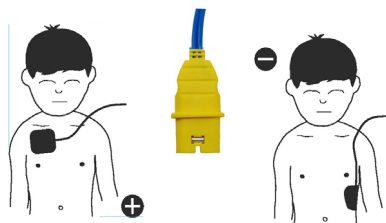

Fig. 5.4 Electrode position for children under 25 kg
1. Clean and dry the application points for the electrodes (refer to Fig. 5.4 Electrode position for children under 25 kg). Only clean the skin by vigorously rubbing it with a dry cloth.
2. Apply one electrode above the right nipple as illustrated in Fig. 5.4 Electrode position for children under 25 kg
3. Apply the other electrode below the left breast as illustrated in Fig. 5.4 Electrode position for children under 25 kg.